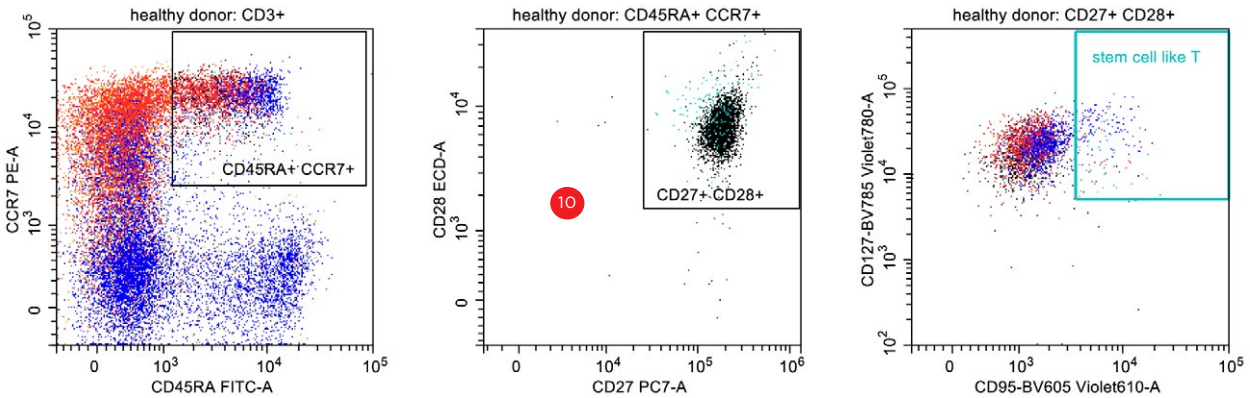

Figure 10. Sequential gating strategy for the identification of stem cell like memory T cells (stem cell like T).
Only recently a T cell memory subpopulation displaying stem-cell like properties like self-renewal and multipotency could be identified in humans and in mice (14). This cell type is currently moving more into the focus of clinical research as the persistence of the cells in humans could be shown up to 12 years after transplantation. This cell type is characterized by the expression of CD45RA, CCR7, CD27, CD28, CD95 and CD127. An example of the gating strategy can be found in Figure 10.